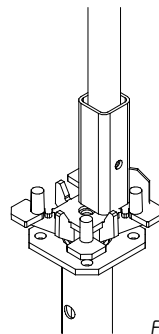
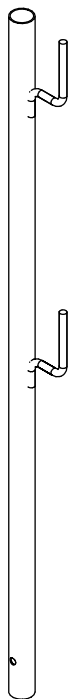
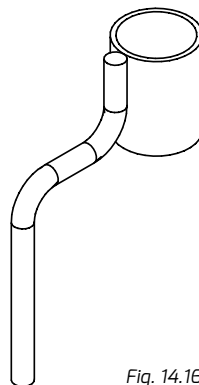

Fig. 14.12
Fig. 14.14
Fig. 14.16
3. On each edge of the ceiling installed which is not fitted with the railing you should install a barrier that protects the employees against falling from the height. To do this you should use the head with the post socket (fig. 14.12 and 14.15) and the working platform posts (fig. 14.14) and the toeboard grips (fig. 14.16).